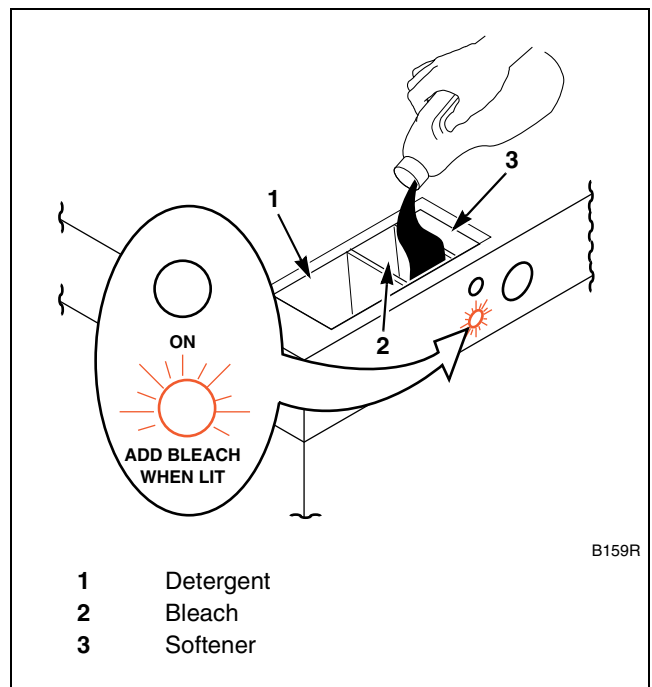

Figure 23
8. Add bleach to container 2 when ADD BLEACH light is lit. Refer to *Figure 23*.